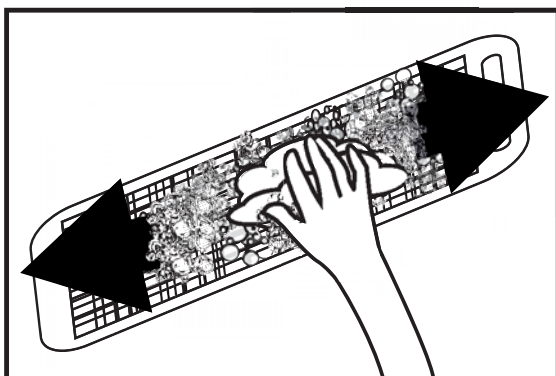

Fig. 15
- ▶ **5.2.3.** Clean the filters using a mild detergent and a clean cloth (Fig. 15). Ensure the filter is fully dry.